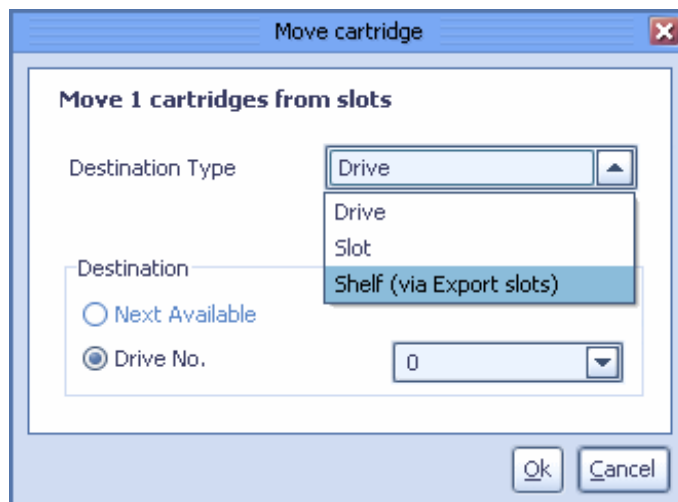

Figure 10-139 Select the destination type
4. The Move window opens. Select **Shelf (via Export slots)** for Destination Type (Figure 10-139).